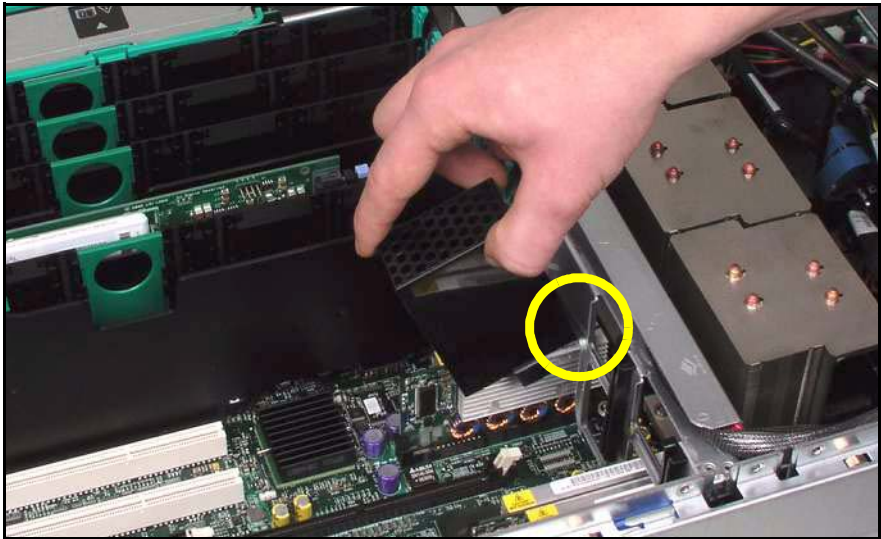

Figure 21: Installing the ventilation hood for the core VRM module of the 4th CPU
- Slide the plastic catch (A) under a cross-bar on the chassis (see figure 21 on page 38).